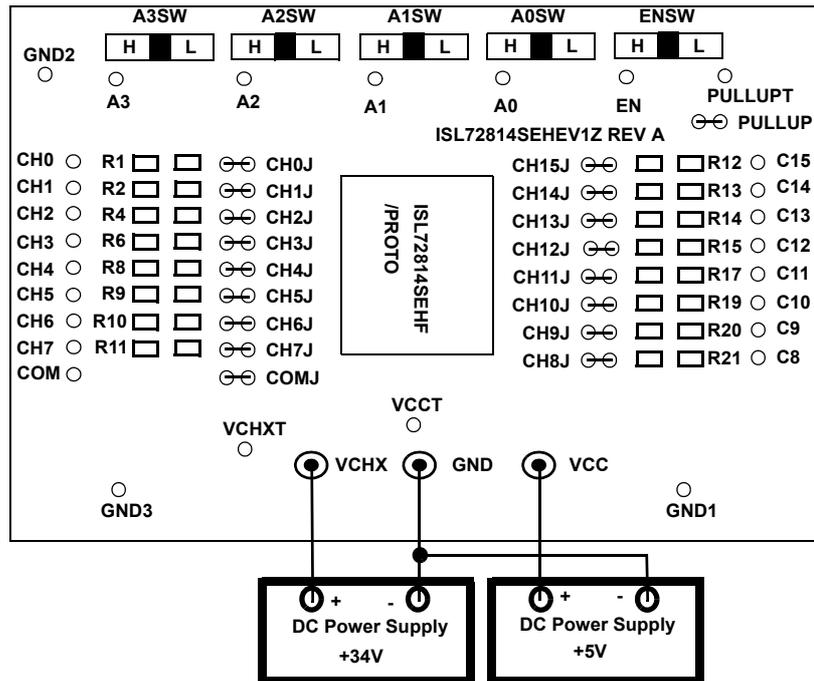

Figure 2. Basic Evaluation Test Setup for Functional Operation Testing
1. Configure the board as shown in Figure 2 on page 7.